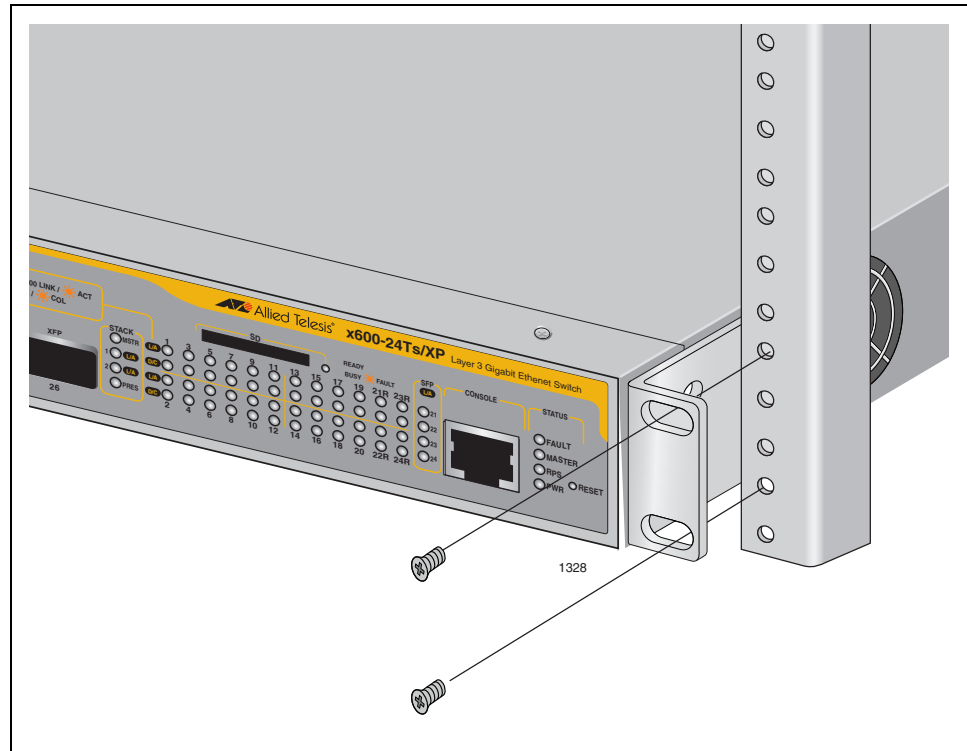

Figure 32. Mounting the Switch in a Rack
6. Mount the switch in a 19-inch rack using standard screws (not provided), as shown in Figure 32.